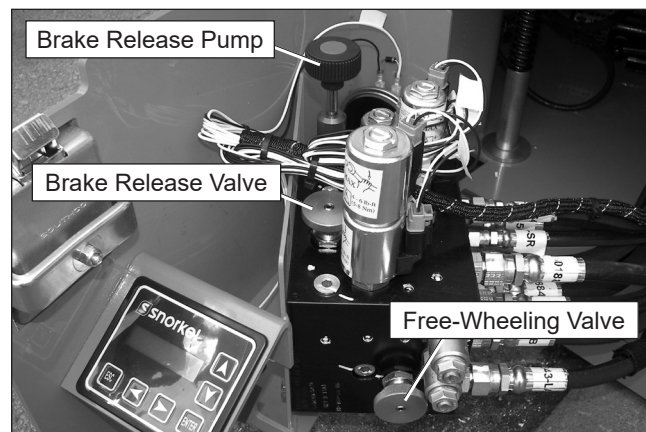

Figure 11.4 – Hydraulic Tray
2. Unlatch and swing out the control valve tray on the right side of the machine. The brake release valve and brake release pump are located on the top of the hydraulic manifold. The free-wheeling valve is on the side of the valve (refer to Figure 11.4).